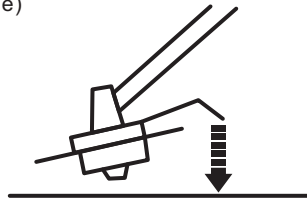

Fig. 17e
9. The trimmer head is equipped with a bumper (B13) helping to cut the trimming line (B12) while operating. Simply tap the bumper on a firm surface and the spool will release fresh trimming line. (See Fig. 17e)